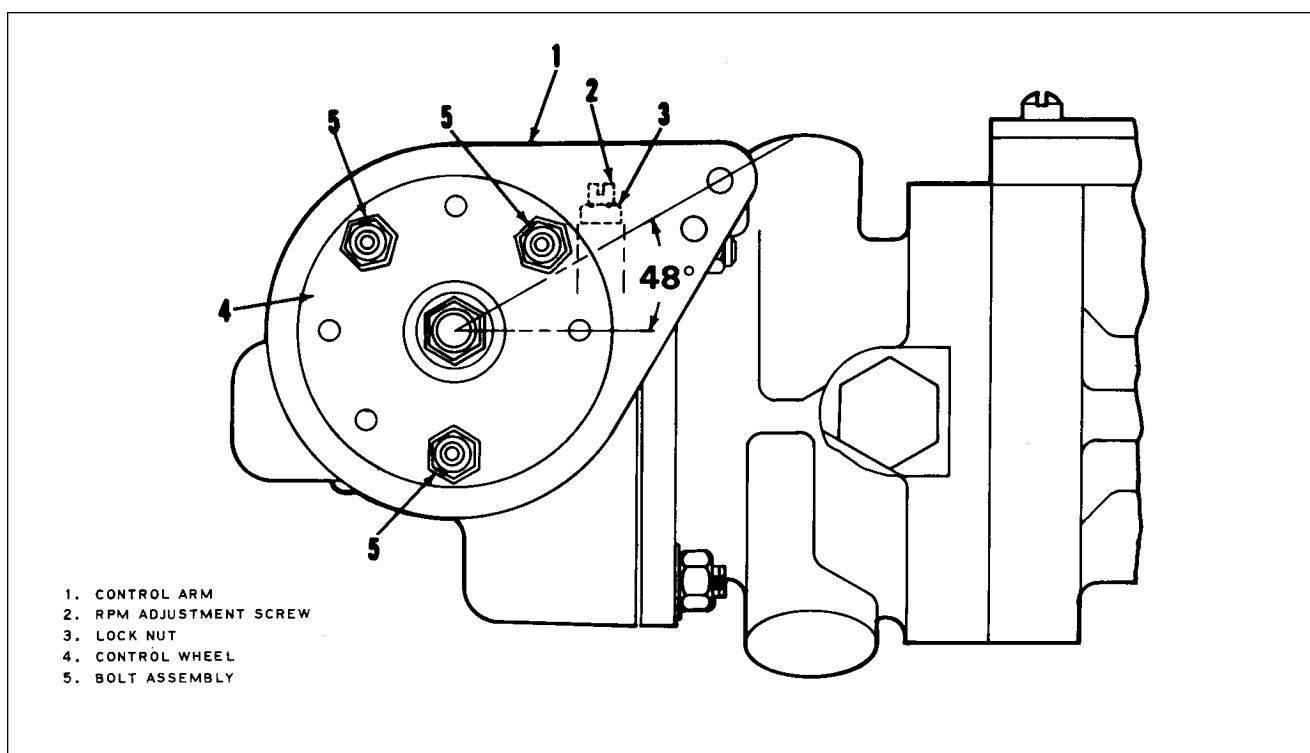

Figure 61-7. Propeller Governor
RIGGING AND ADJUSTMENT OF PROPELLER GOVERNOR. (Refer to Figure 61-7.)
- E. Ascertain that the governor control arm is adjusted to the proper angle on the control wheel as shown in Figure 61-7.